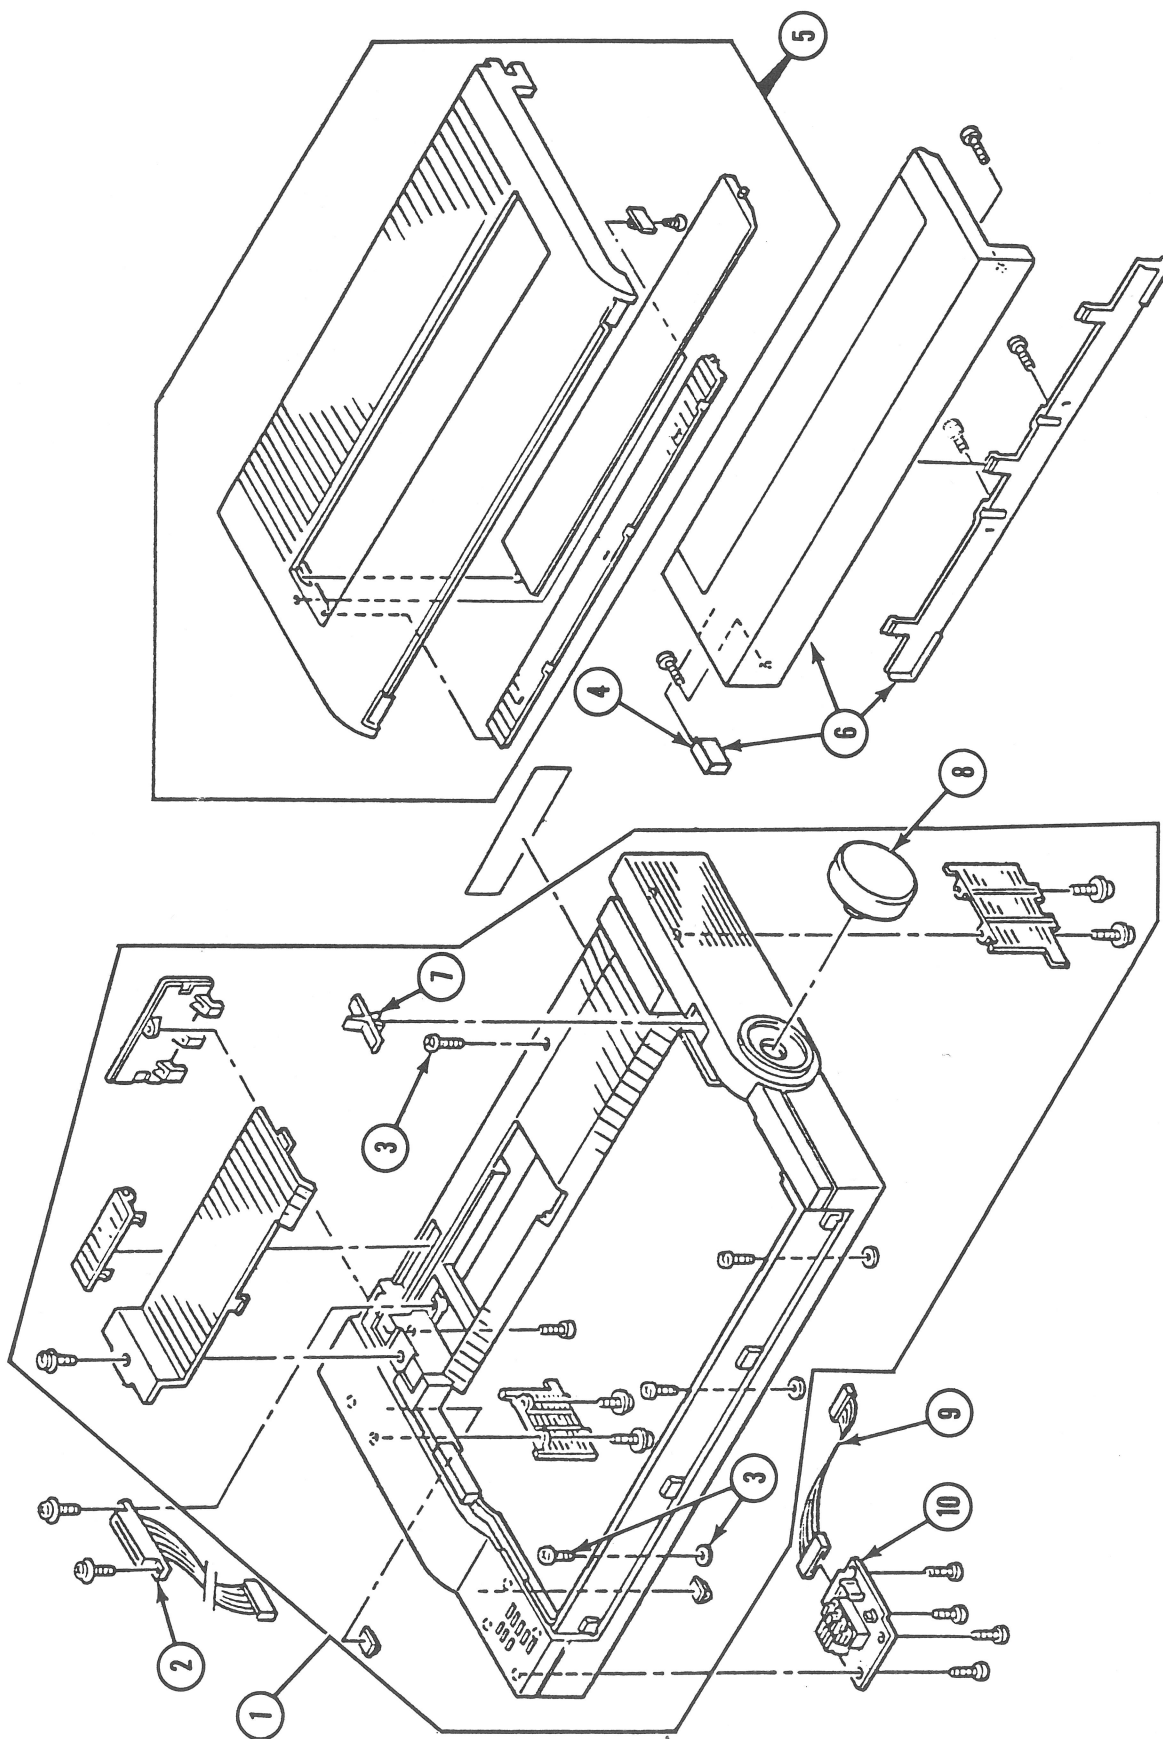

FIGURE 2
□ TOP COVER ASSEMBLY (Figure 2)